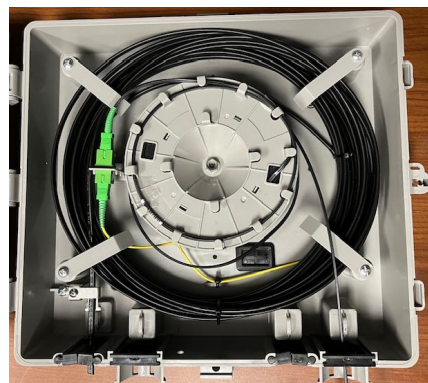

Figure 9
11. Route the excess fiber on top of the Reel and secure under the slack retention fingers. Remove dust cap and plug the SC connector into the top of the SC Adapter (Figure 9).